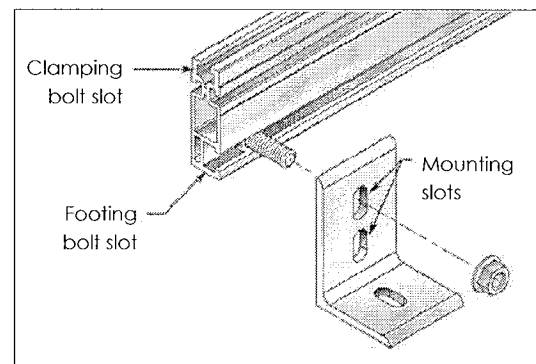

Figure 14. Foot-to-rail splice attachment
**Mounting Rails on Footings.** Rails may be attached to either of two mounting holes in the L-feet (Fig. 14). Mount in the lower hole for a low profile, more aesthetically pleasing installation. Mount in the upper hole for a higher profile, which will maximize airflow under the modules. This will cool them more and may enhance performance in hotter climates.